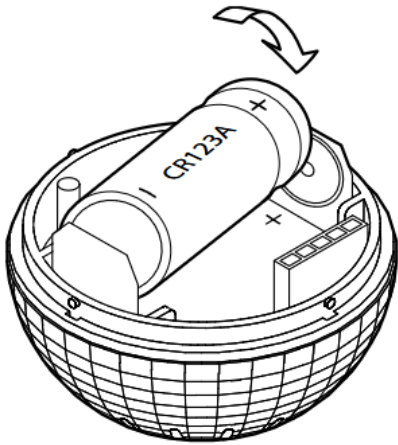

Fig.2
2. Insert the battery as shown on Fig. 2.